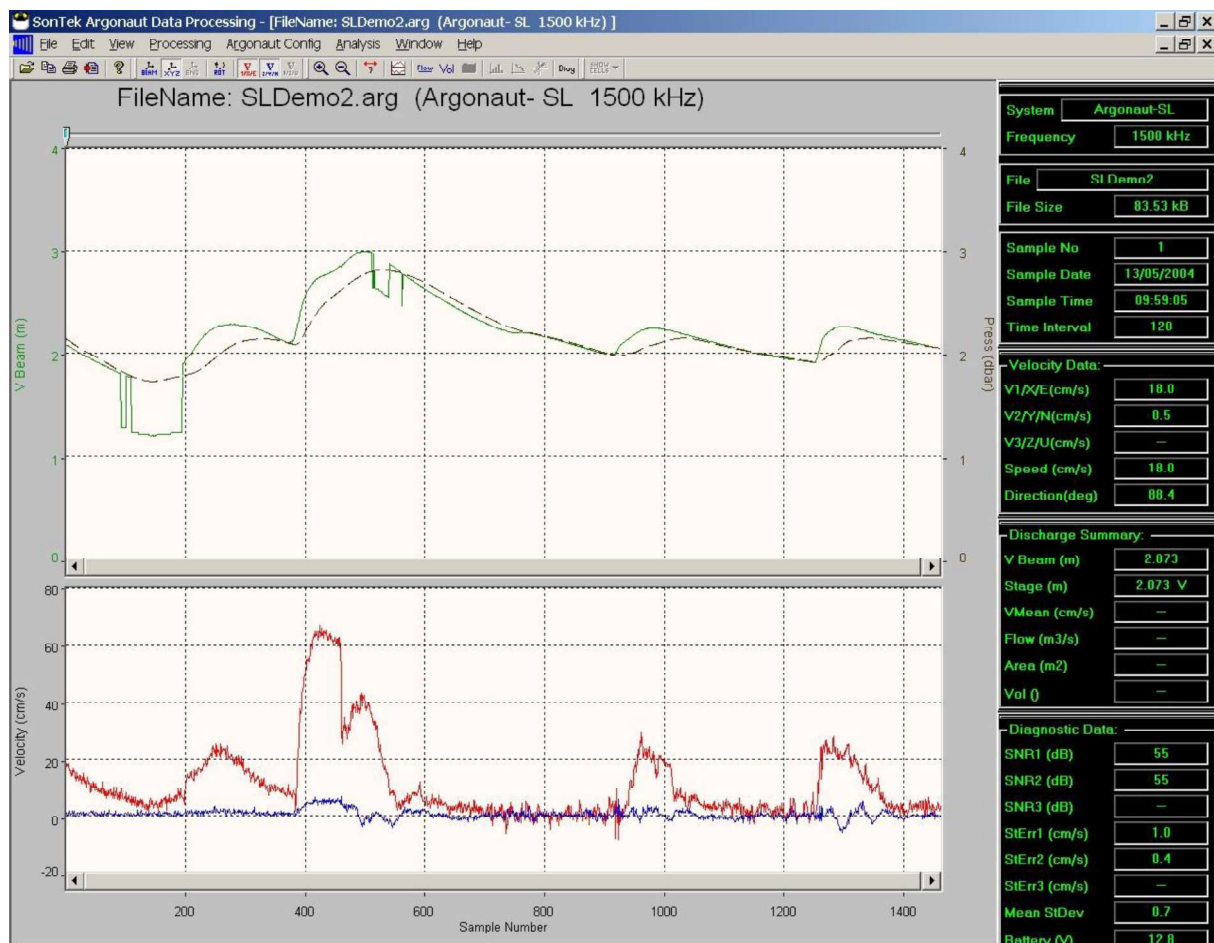

Figure 6-8. Sample Data File 2(SLDemo2.arg) – Stage, Pressure, and Velocity
Figure 6-8 shows plots of stage, pressure, and velocity.
- Given the amount of debris in the velocity beams, some debris could be accumulating above the system and affecting the vertical beam measurements as seen earlier in **Figure 6-8**.
- These branches caused the large step changes seen earlier in stage data (**Figure 6-8**).